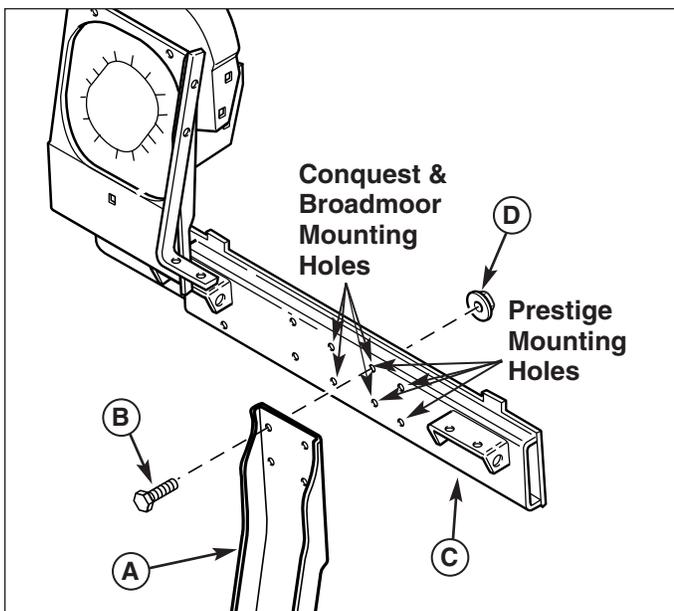

Figure 5. Assemble Catcher Frame
2. Bolt the upright support (A, Figure 5) to the horizontal support (C). Secure with 3/8-16 x 7/8 capscrews (B) and 3/8-16 whizlock nuts (D).